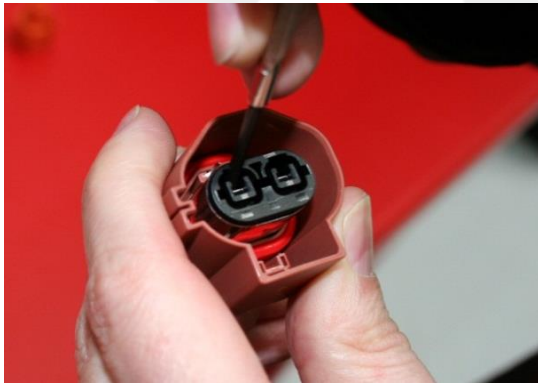
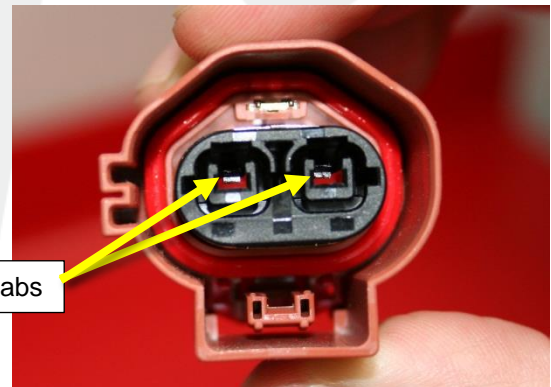

Figure 7
Figure 8
- Insert the screwdriver blade between the inner housing lance tab and the electrical terminal end (Figure 7). Pry up on the lance tab to release it from the terminal pin (Figure 8).